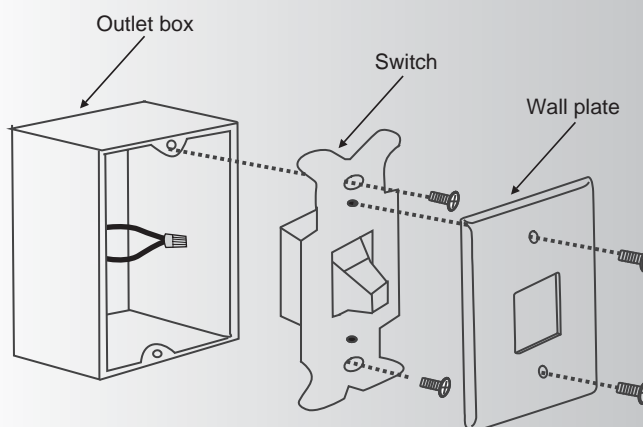

Fig. 23
Step 1. Remove the existing wall plate and the old switch from the wall outlet box. Wire nut the BLACK leads (hot) together and push back inside the outlet box. (Fig. 23)